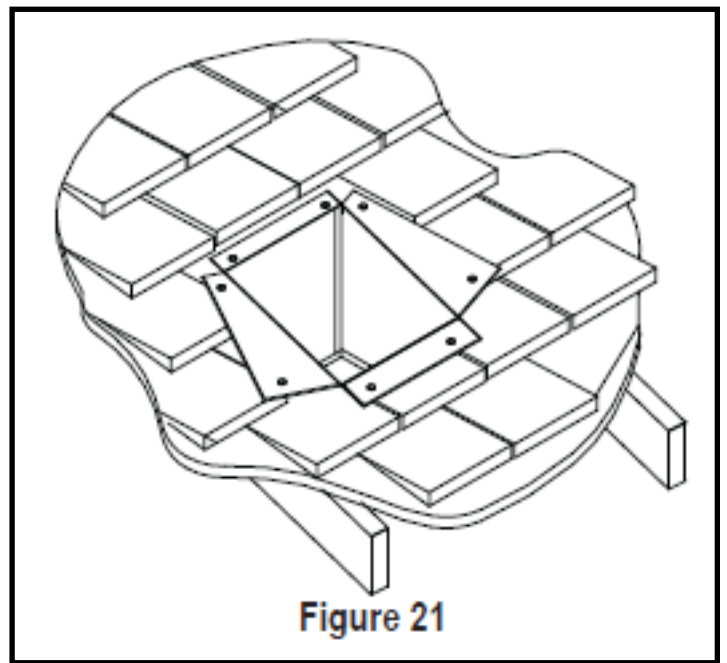

Figure 21
Step 5. Using tin snips, cut the Support Box from the top corners down to the roof line, and fold the resulting flaps over the roof sheathing. The flaps may be trimmed as needed (Fig. 21). Before nailing it to the roof, run a bead of non-hardening sealant around the Support Box, to make a seal between the Support Box and the roof. Clean out any combustible material from inside the Support Box.